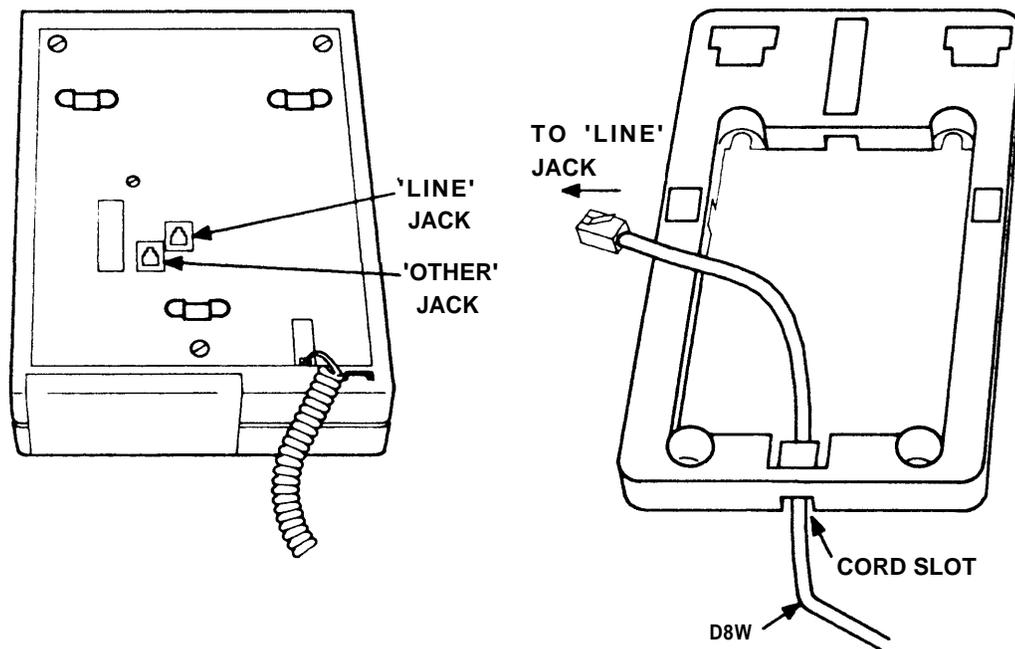

Figure 17
- ❑ 4. Turn the voice terminal upside down, and plug one end of the D8W Modular Terminal Cord into the jack labeled "LINE". See Figure 17.